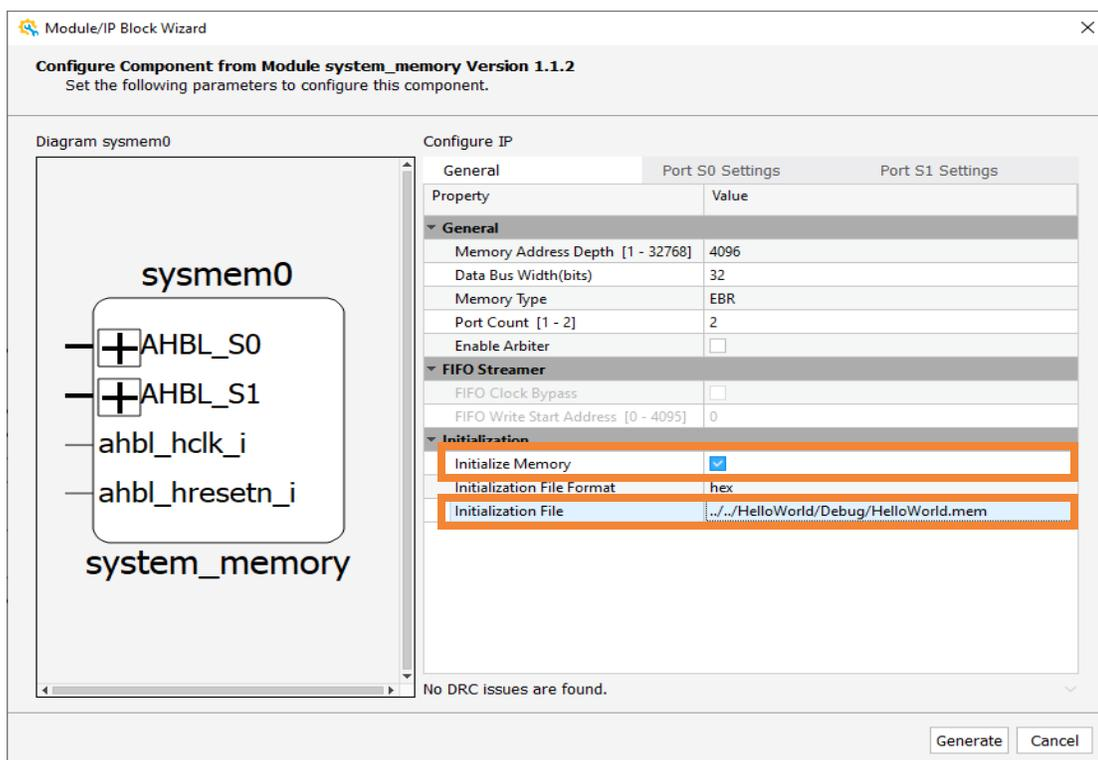

Figure 4.5. Configure Module System Memory
- (Optional) In Propel Builder, update the SoC design to set the preloaded software. Enable the checkbox for **Initialize Memory** for **system\_memory** IP module from the **Initialization** area of the **General** tab, and set **Initialization File** (Figure 4.5) generated from the corresponding Hello World C project in the Creating Hello World C Project section.